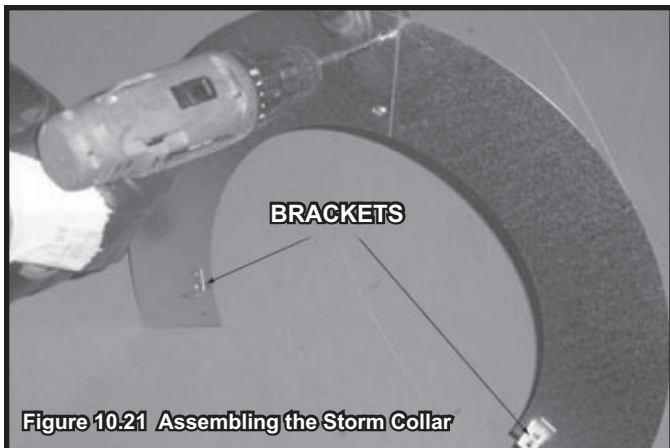

Figure 10.21 Assembling the Storm Collar
- Connect both halves of the storm collar with two screws (see Figure 10.21).